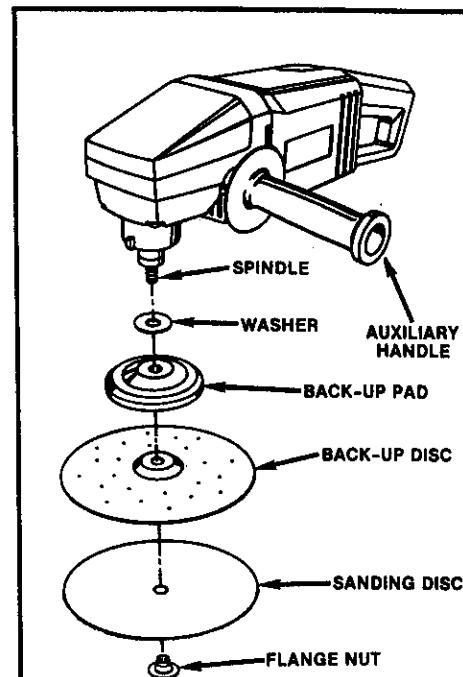

Fig. 9
1. Assemble parts as shown in Figure 9.